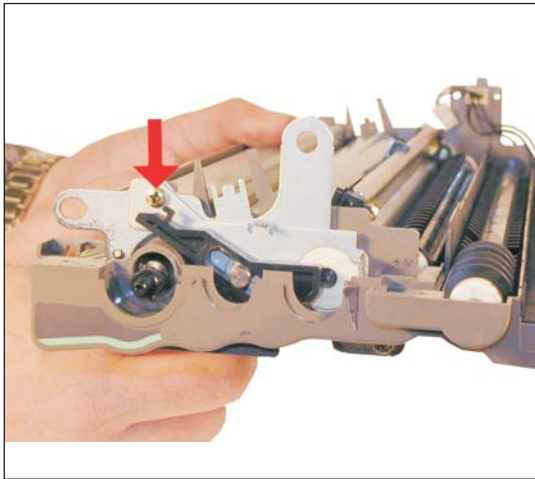

Figure 39
29) Install the outside metal drum plate, the plastic rocker arm and screw. It is easiest to install the arm from the bottom. See Figure's 38 & 39 (Figure 39 on next page)